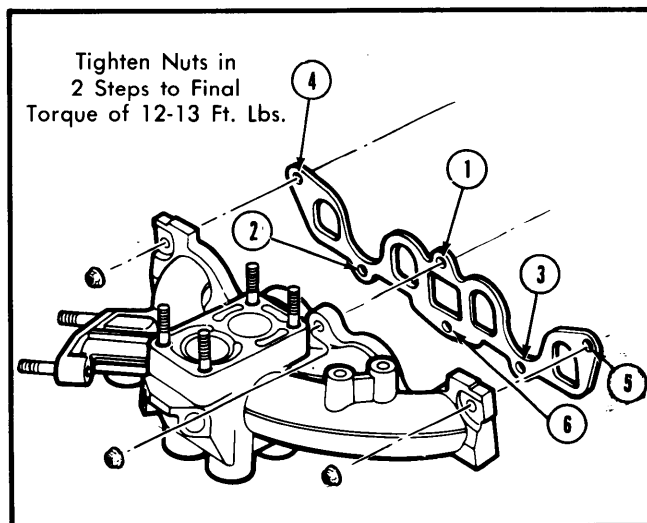

Fig. 1 1.6L Engine Intake Manifold Tightening Sequence
4) Remove the bottom 3 intake manifold nuts, locations, 2, 3 and 6. See Fig. 1. Lower vehicle. Disconnect fuel lines.
Installation - Clean all mating surfaces on manifold and on cylinder head. Tighten nuts in 2 steps as shown in Fig. 1. To complete installation, reverse removal procedure.